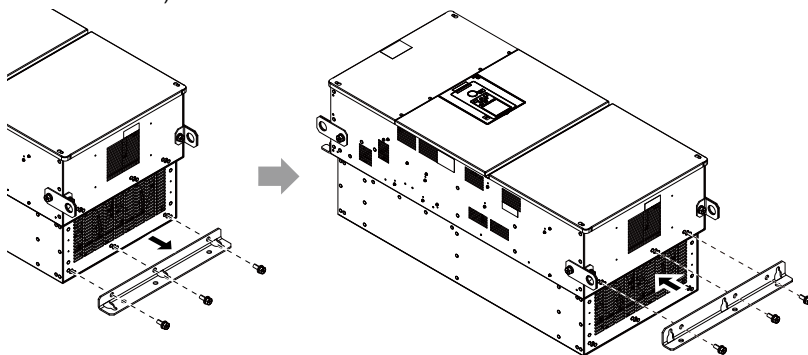

Figure 5.45 Install the Mounting Bracket
4. Change the position of the mounting bracket and install it in the position shown in Figure 5.45.